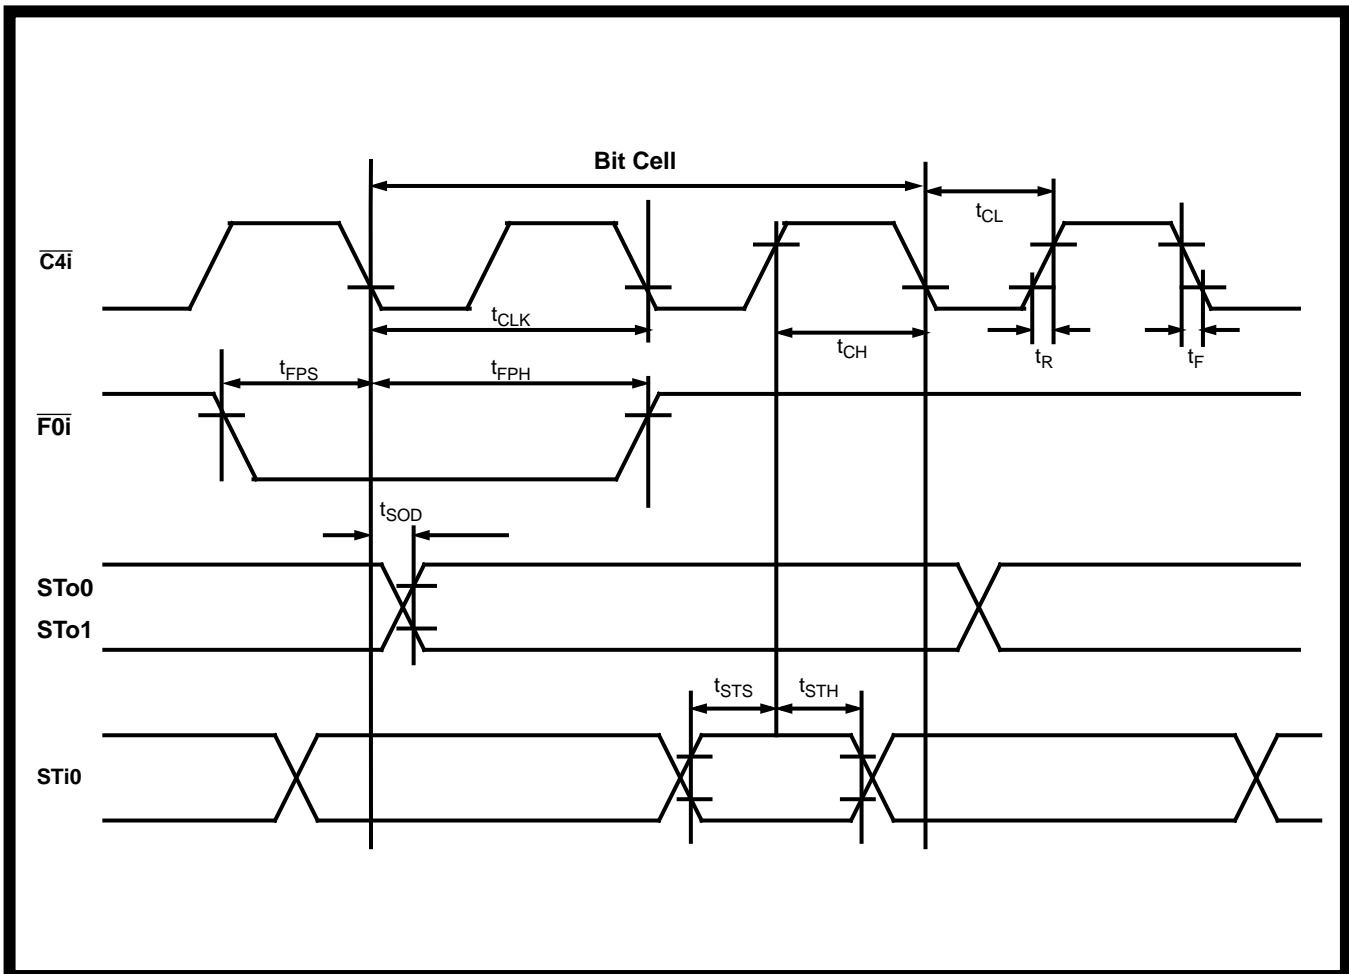

Figure 20 - ST-BUS Timing Diagram
**AC Electrical Characteristics† - ST-BUS Timing (see Figure 20)**